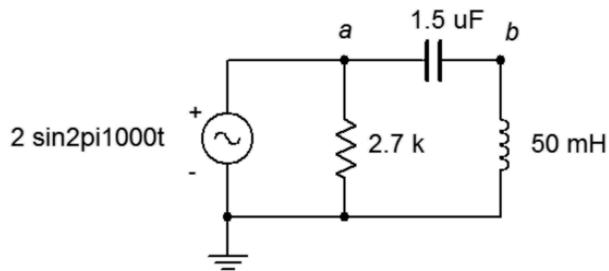

Figure 4.7
7. For the circuit of Figure 4.7, determine the source current and the current through each of the components.
8. For the circuit of Figure 4.7, determine voltages  $v_{ab}$  and  $v_b$ .
33. Determine a new value for the capacitor in Figure 4.7 such that  $v_b$  is 1.5 volts.